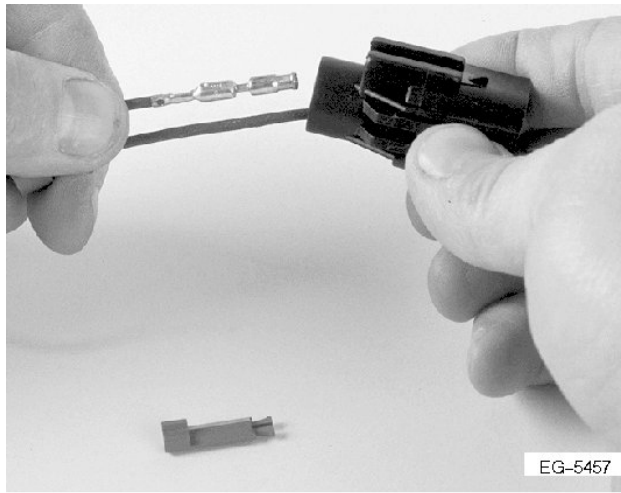

Figure 271 Remove Terminal From Connector
3. Pull the wire and terminal out of the connector body (See Figure 271, page 441).